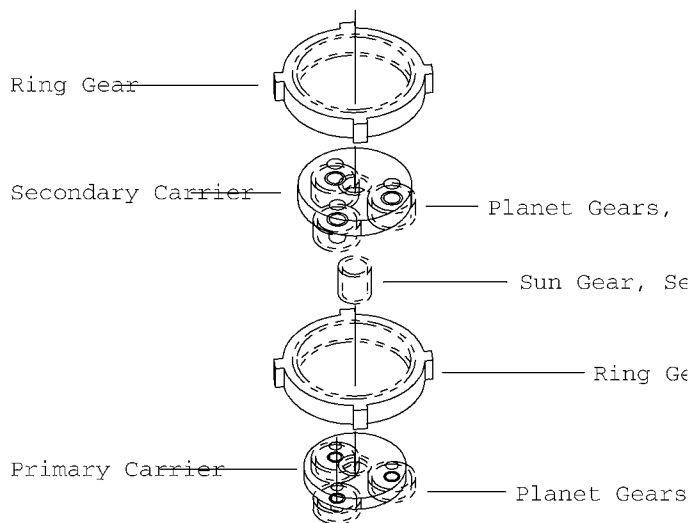

Figure 31
13. Both the primary and secondary carrier assemblies. The planet gears may be removed for inspection and cleaning (Figure 31).